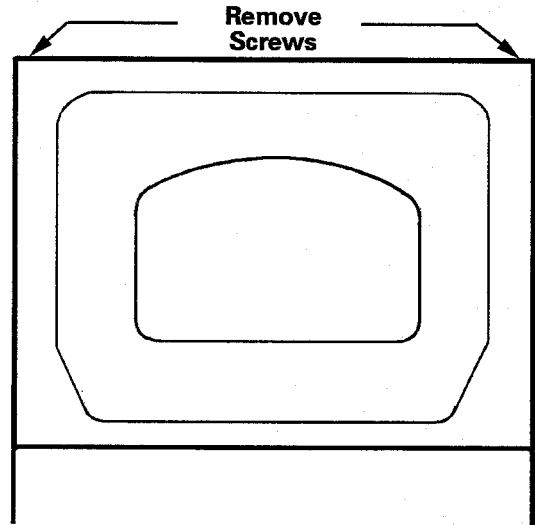

Figure 2-74
4. Remove the two 5/16" hex head screws located in the top right and left front corners of the front panel, *see Figure 2-74.*